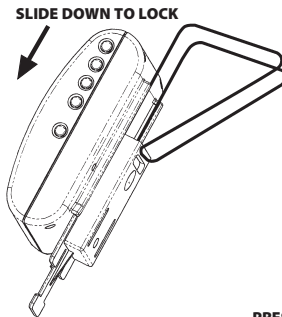

Fig. 24
2. Slide the alarm unit on the bracket from the top down until it locks into place (see Fig. 24).